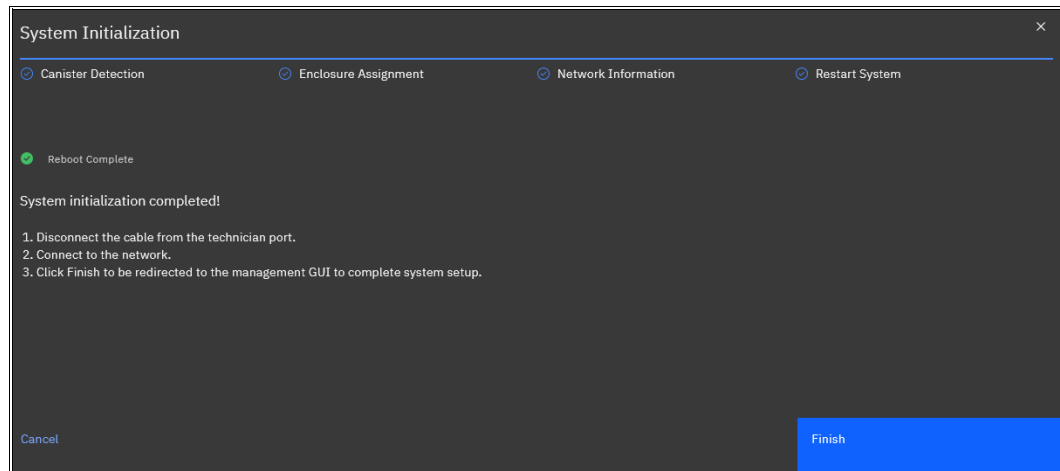

Figure 2-15 System Initialization completed
8. The System Initialization completed wizard is shown in Figure 2-15. Click **Finish**.